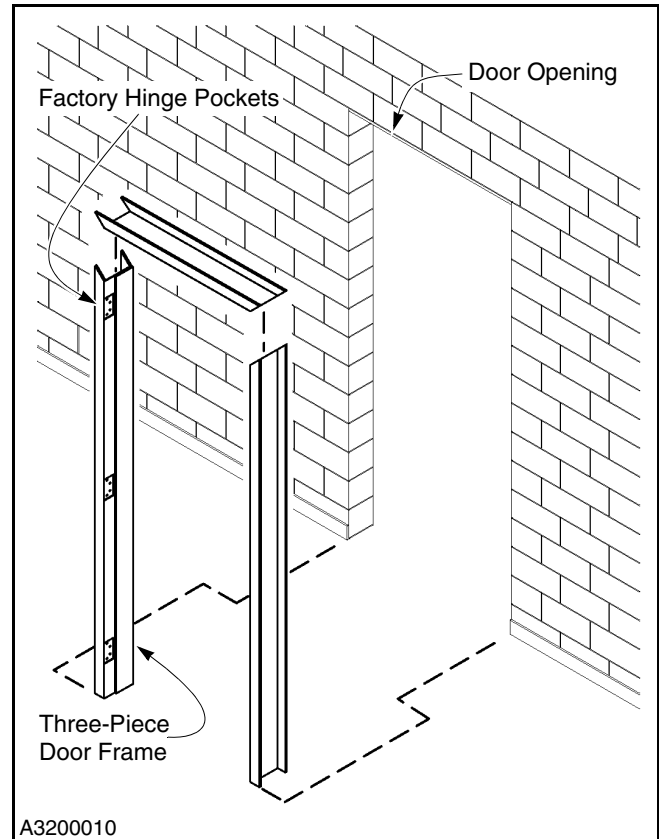

Figure 40
4. Install the top door frame. (See Figure 40.) (See “ANCHORING METHODS” on page 2.)
5. Install side door frames. (See Figure 40.) (See “ANCHORING METHODS” on page 2.)